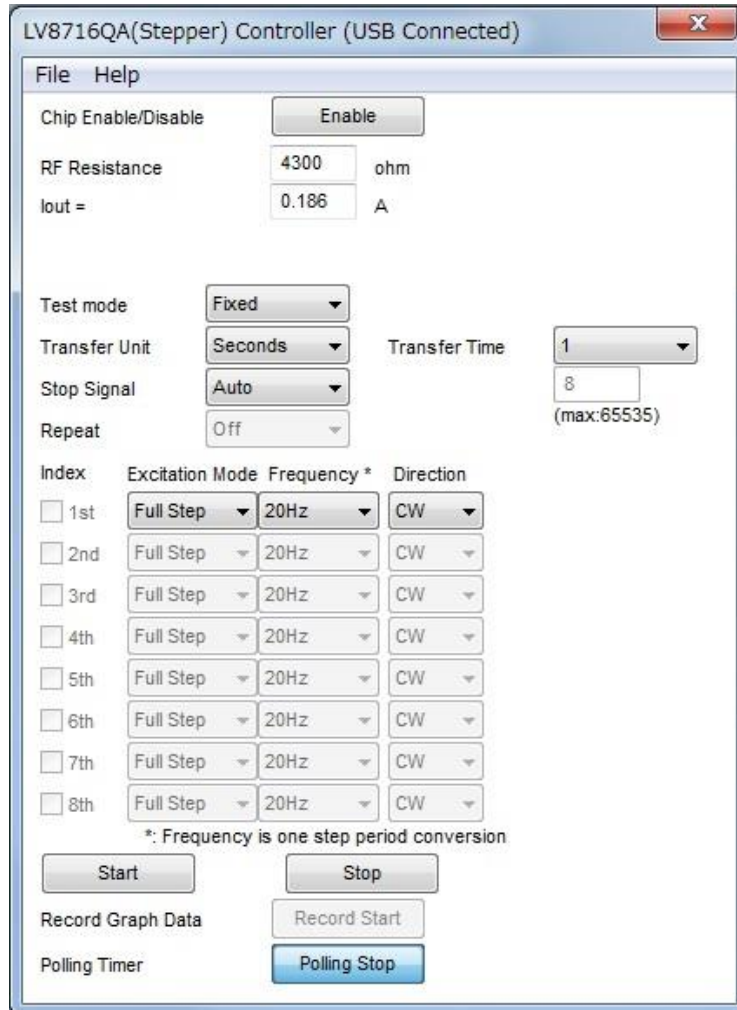

Figure 14. Controller window for stepper
(13) The following windows should appear when “Stepper” is selected
- Controller (Figure 14)